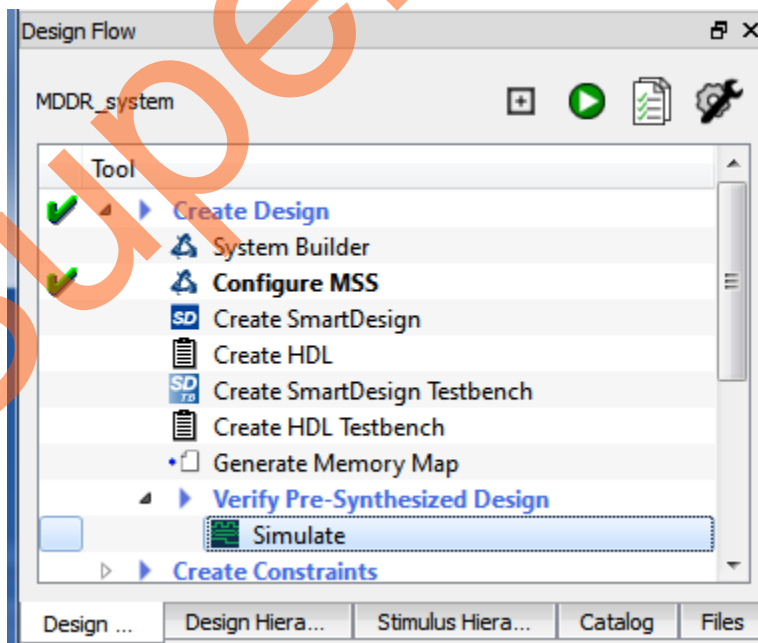

Figure 38. Starting Pre-Synthesis Simulation
4. Expand **Verify Pre-Synthesized Design** in the Design Flow window, as shown in Figure 38. Double-click **Simulate** to launch ModelSim in GUI mode.